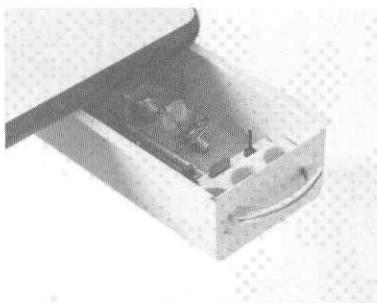

Fig. 21
Store the standard accessories supplied with the instrument in the accessory drawer②, as shown in Fig. 21, in the case of table①.